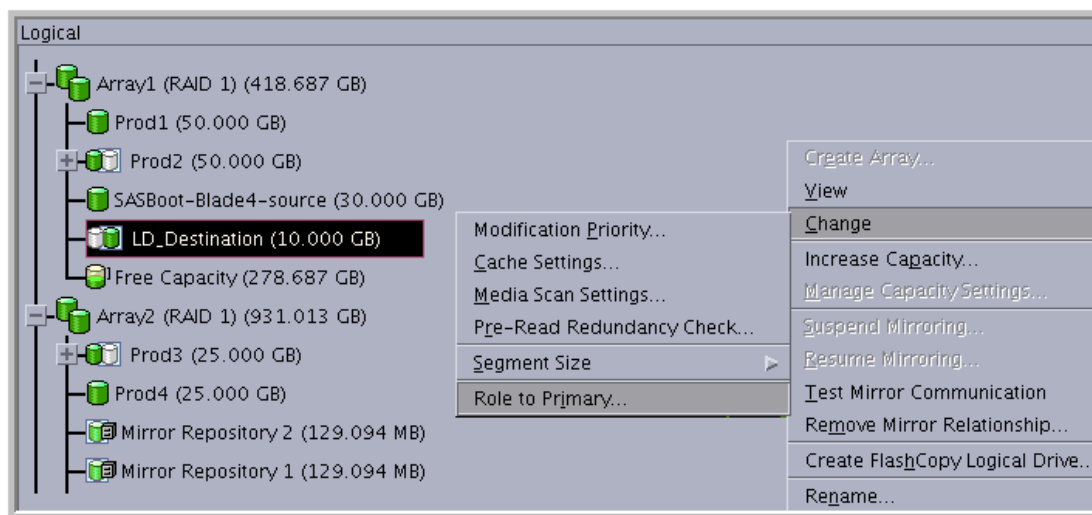

Figure 5-55 Change role: Secondary to primary
1. Select the secondary logical drive in the logical view. Then, select **Logical Drive** → **Remote Mirroring** → **Change** → **Role to Primary**. (Or, right-click and select **Change** → **Role to Primary** from the pop-up menu, as shown in Figure 5-55.